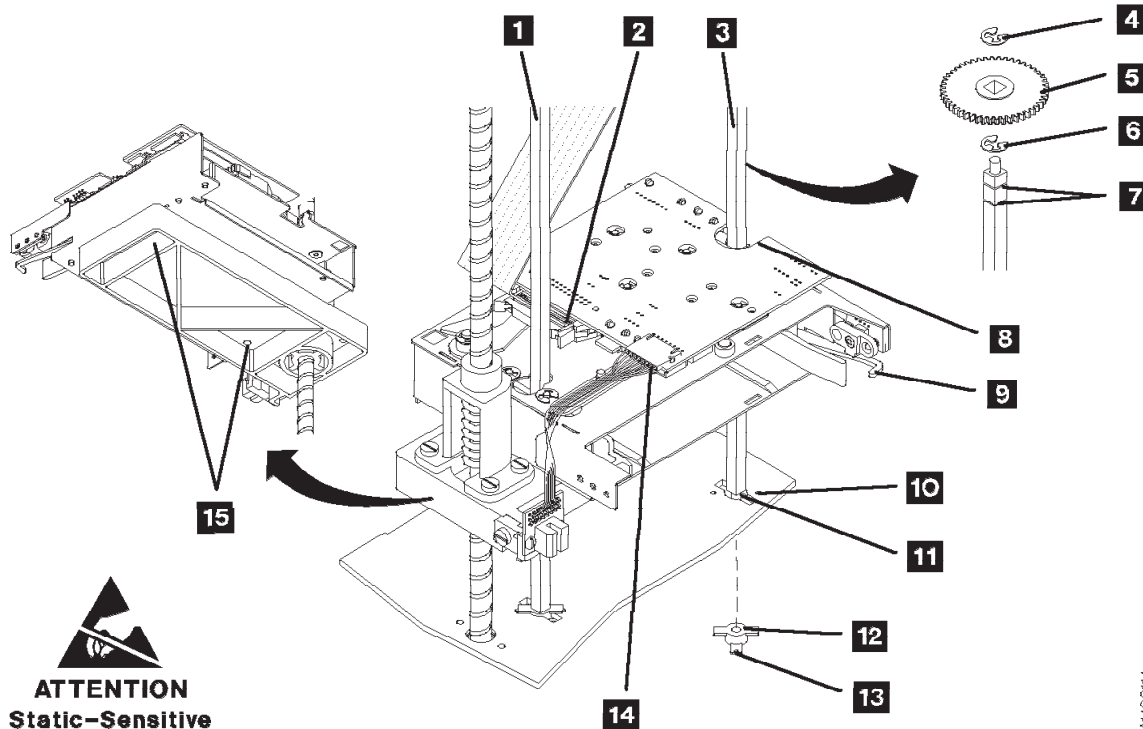

Figure 10-23. Transport
4. See Figure 10-23 on page 10-36. Disconnect the ribbon cable connector **2** from the transport card.
8. See Figure 10-23 on page 10-36 and remove the pinch shaft **3** :